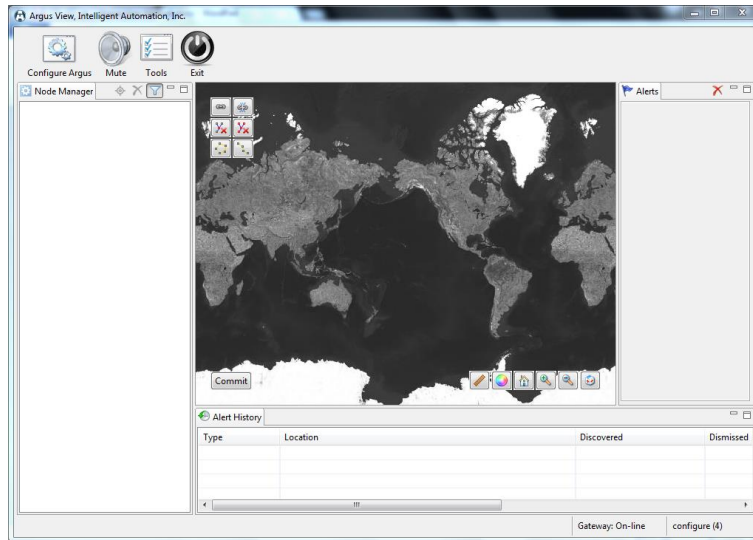

Figure 3: Initial Configuration Mode view (with satellite map type selected)
- The new configuration has been created, and you are now in Configuration Mode. The main GUI should again be displayed (see *Figure 3*).